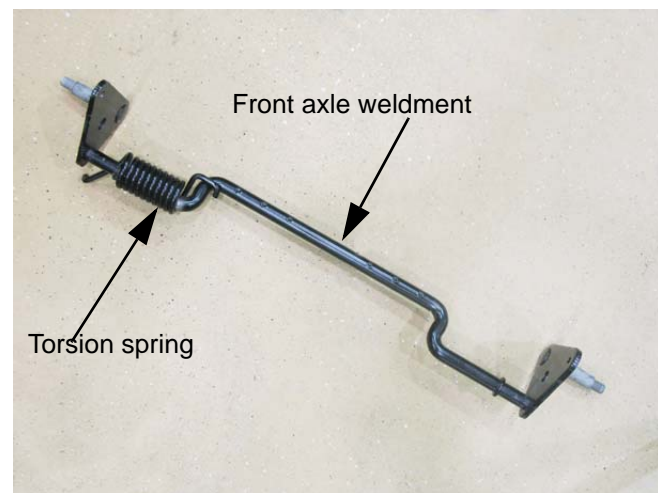

Figure 2.8
7. The torsion spring is captive on the front axle. If either is damaged, both must be replaced. See Figure 2.8.